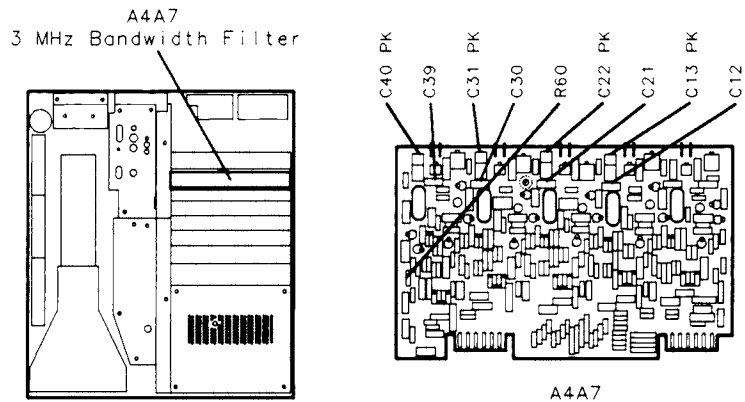

Figure 3-39. Location of 3 MHz Peak Adjustments
25. Adjust A4A7C13 PK for maximum peak-to-peak signal on channel 4 display. See Figure 3-39 for location of adjustment. If unable to achieve 1 "peak" in signal amplitude, increase or decrease value of A4A7C12. Refer to Table 3-3 for range of values.
28. Adjust A4A7C22 PK for maximum peak-to-peak signal on channel 4 display. See Figure 3-39 for location of adjustment. If unable to achieve a “peak” in signal amplitude, increase or decrease value of A4A7C21. Refer to Table 3-3 for range of values.
31. Adjust A4A7C31 PK for maximum peak-to-peak signal on the oscilloscope channel 4 display. See Figure 3-39 for location of adjustment. If unable to achieve a “peak” in signal amplitude, increase or decrease value of A4A7C30. Refer to Table 3-3 for range of values.
35. Adjust A4A7C40 PK for maximum signal amplitude on the spectrum analyzer CRT display. See Figure 3-39 for the location of adjustment. If unable to achieve a “peak” in signal amplitude, increase or decrease value of A4A7C39. Refer to Table 3-3 for range of values.